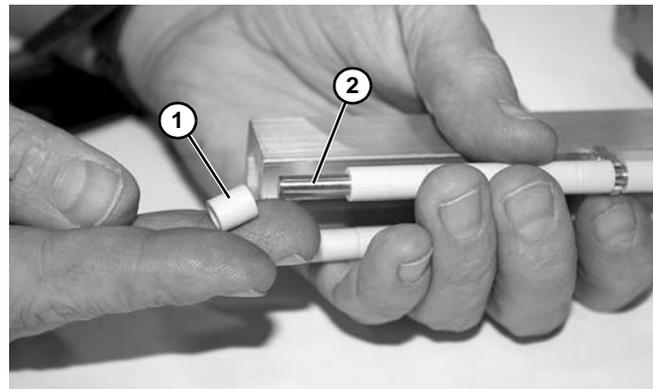

Figure 108
7. Remove and replace bearings (**Figure 108, item 1**) and rods (**Figure 108, item 2**) as necessary.